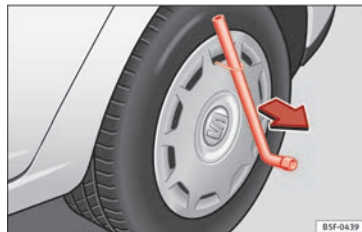

Fig. 64 Removing the full hubcap
- Insert the wheel brace onto the wire hook » **Fig. 64** and pull the hub cap in the direction shown by the arrow.